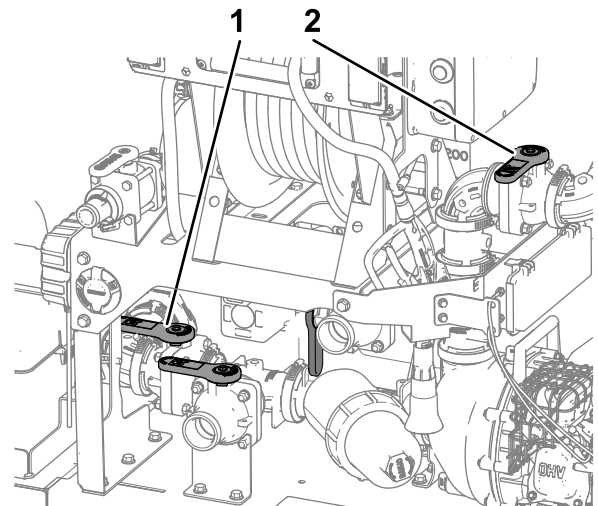

Figure 7
Set the valves in the application-mode positions when you are applying liquid de-icer. Figure 7 shows the valves in application-mode positioning.
**Important:** Leaving the bypass valve (Figure 7) in the open position causes an error; this uses the majority of the pressure and liquid flow for the system and does not leave enough pressure for the sprayer or hose reel to work correctly.
**Important:** Leaving the tank valve (Figure 7) in the closed position causes an error; with no liquid getting to the pump, the system cannot function and eventually this burns out the pump seal.